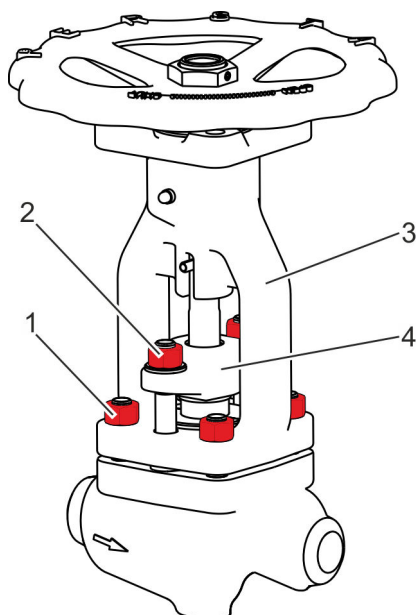

Fig. 22: Removing nuts
Loosen and remove the nuts (Fig. 22/1) on the bonnet (Fig. 22/3).
5. → Loosen and remove the nuts including washers (Fig. 22/2) on the gland follower flange (Fig. 22/4).